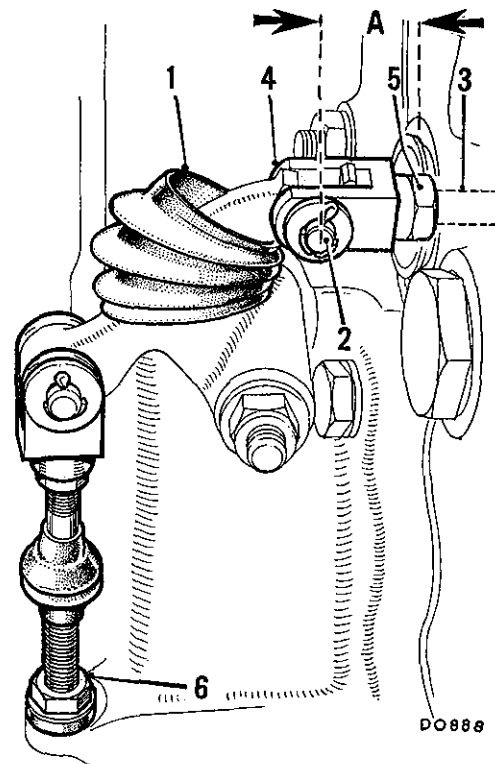

Fig. Fa.2
It is most important to carry out the adjustment procedure detailed below and refer to Fig. Fa.2.
- (7) Pull back the rubber boot (1) and remove clevis pin (2). Ensure that the selector rod (3) is screwed in tightly and push it fully into the transmission case.
- (8) Refit the clevis pin (2) into the selector rod yoke (4) and check the measurement given in Fig. Fa.2; adjust if necessary.
- (9) Slacken the locknut (5) behind the selector rod yoke and turn the yoke (4) until the correct measurement of  $\frac{3}{8}$  in. (20 mm.) is effected (see Fig. Fa.2). Tighten the locknut (5), ensuring that the yoke is set squarely to the bell-crank lever arm.
- (10) Select 'N' in the transmission unit by pulling the selector rod fully out and then pushing it back in one detent.
The measurement 'A' in Fig. Fa.2 should now be 1.45 in. (37 mm.).
- (11) Select 'N' on the quadrant with the gear lever, and adjust the outer cable using the adjusting nuts (6) (see inset to Fig. Fa.2). The adjustment is correct when the clevis pin (2) can be easily refitted.
- (12) Apply the hand and foot brakes, and ensure that the starter operates only in the 'N' position; if this is not correct, adjust the inhibitor switch as detailed in items (1) to (6).
- (13) Start the engine, and move the gear lever to the 'R' position and check that reverse is engaged. Slowly move the lever back towards the 'N' position, checking that the gear is disengaged just before or as soon as the lever drops into the 'N' position on the quadrant. Repeat this procedure in the first gear '1' position. Re-adjust the outer cable slightly if necessary to obtain the above conditions.